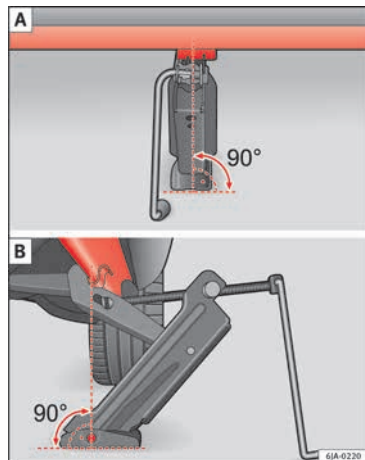

Fig. 64 Fitting the jack.
- Adjust the jack so that its claw surrounds the jacking point on the door sill » **Fig. 64** - B underneath the stamp.
- Make sure that the base of the jack is entirely supported on a flat surface and that it is vertical » **Fig. 64** to the point where the claw surrounds the jacking point on the door sill.